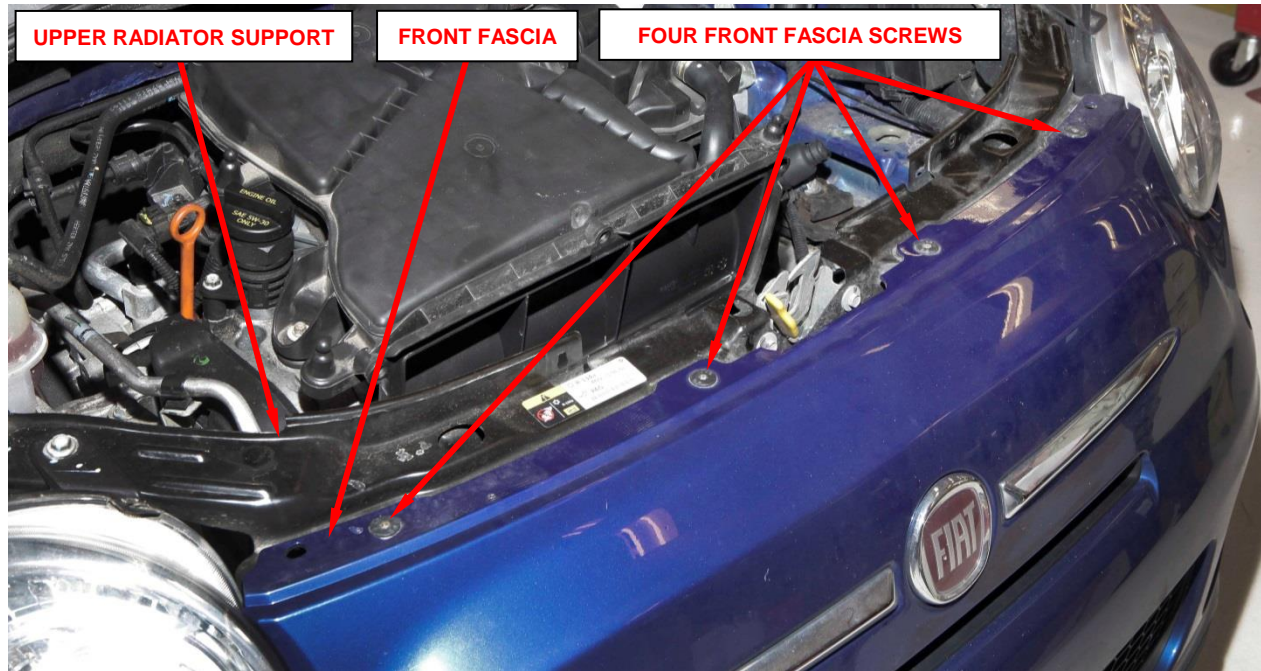

Figure 30 – Front Fascia Screws to Upper Radiator Support
24. Remove and save the four fasteners securing the front fascia to the upper radiator support (Figure 30).